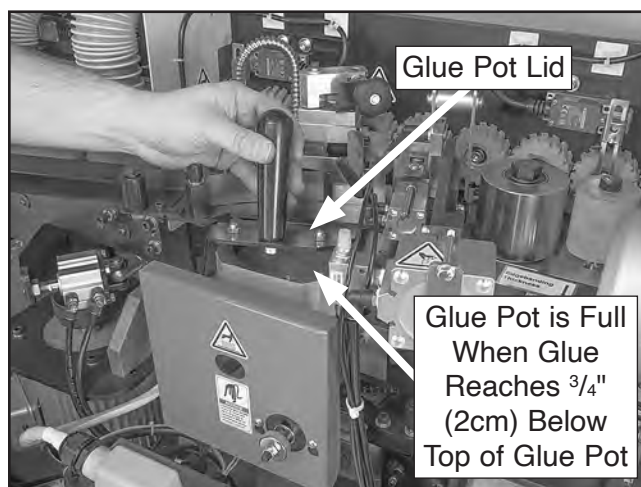

Figure 46. Checking glue level in glue pot.
2. Open rear maintenance door and remove glue pot lid (see **Figure 46**). Determine if pot needs glue pellets.